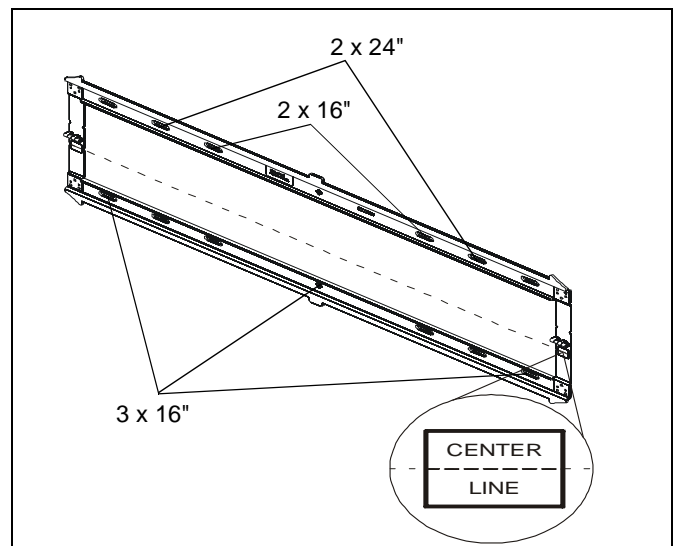

Figure 3
**NOTE:** The vertical center of the display will be even with the center line indicated on the labels located directly below each hinge. Keep this in mind when determining mounting location. (See Figure 3)